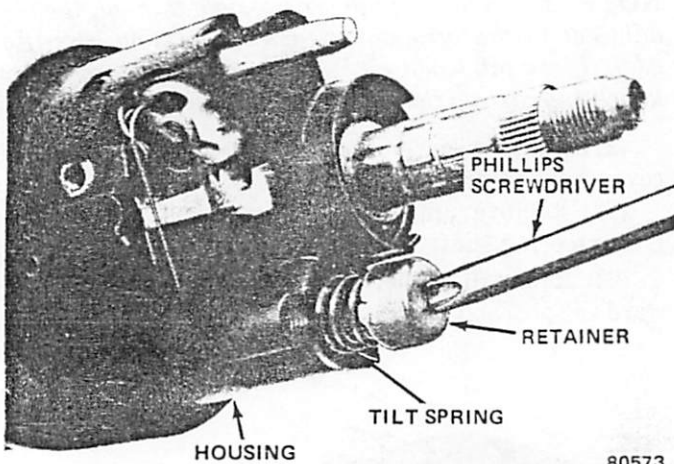

Fig. 2J-52 Tilt Spring and Guide Removal
(25) Place housing in center (nontilt) position.
(26) Remove housing pivot pins using tool J-21854-1 (fig. 2J-36).